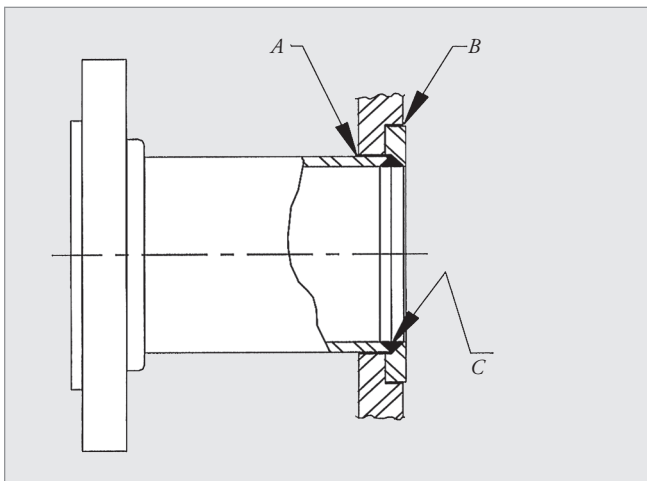

Figure 50
1. Fluid is flowing from the area between the nozzle and the end frame (point A on Figure 50) and/or the interior of the end frame and the seal plate (point B on Figure 50).	Check the integrity of the continuous pressure weld between the stub end and the seal point (point C on Figure 50). Dye-check for small cracks. If the dye-check reveals any linear indication, the area needs to be ground down and re-welded using TIG welding, and the appropriate welding wire. If the weld damage occurred due to a blow to the nozzle, some of the plate assemblies may be damaged. Damaged plates should be replaced.